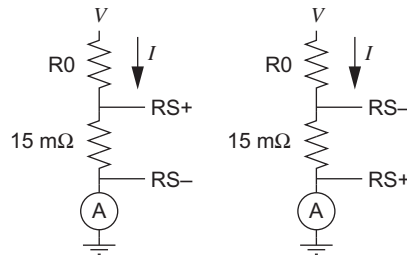

Figure 28.7
6. Build the circuit as shown in Figure 21.22, but do not connect to the motor or the PIC32. You will calibrate the circuit using resistors, an ammeter, and an oscilloscope or voltmeter. Figure 28.7 shows how to use a resistor R0 to provide controlled positive and negative test currents to the current sensor. You will choose different values of R0 to create test currents over the range of likely currents. For example, if you have two 20 Ω resistors, you can use